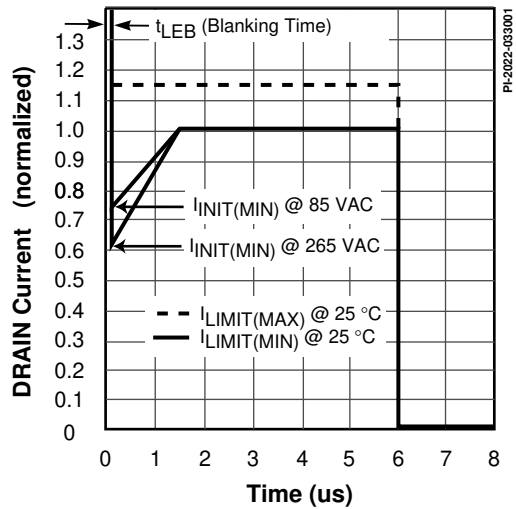

Figure 33. Drain Current Operating Envelope.
2. Maximum drain current – At maximum ambient temperature, maximum input voltage and maximum output load, verify drain current waveforms at start-up for any signs of transformer saturation and excessive leading edge current spikes. *TOPSwitch-FX* has a leading edge blanking time of 200 ns to prevent premature termination of the on-cycle. Verify that the leading edge current spike is below the allowed current limit envelope (see Figure 33) for the drain current waveform at the end of the 200 ns blanking period.